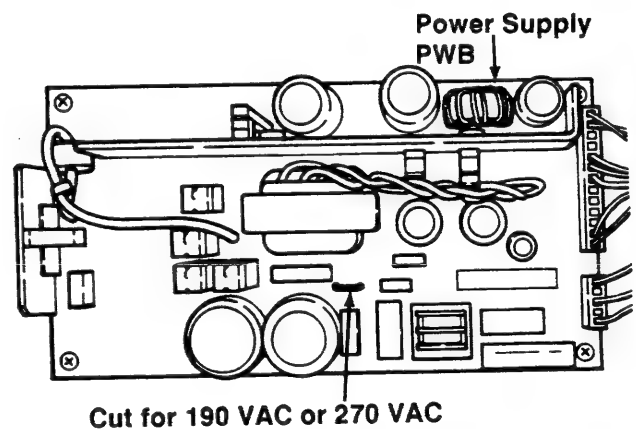

Figure 2-3.1A
2. If the Page Search is to receive power from a 190 VAC to 270 VAC power outlet, cut the Jumper on the Page Search Power Supply PWB (Figure 2-3.1A) marked "Cut for 230 V".